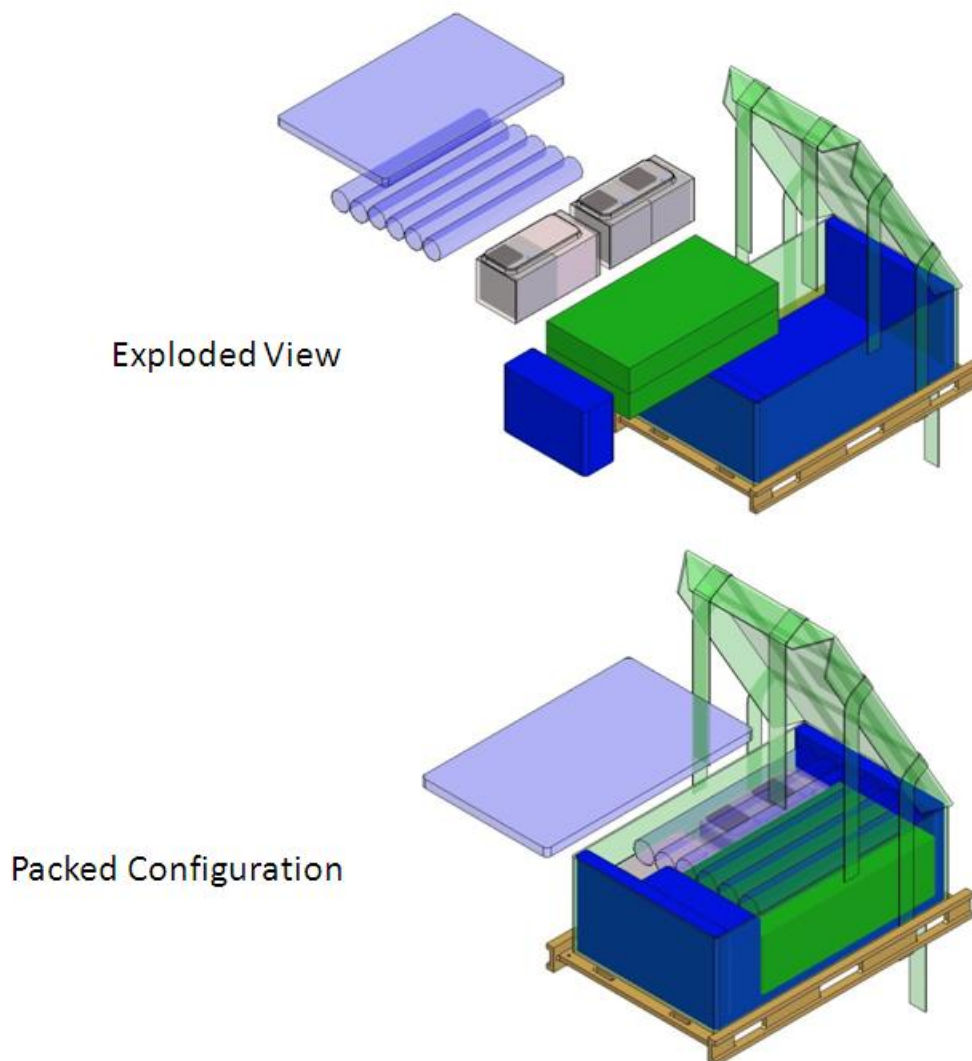

Figure 1. MERLIN Descent Packing Configuration
5.2 Remove samples from Double Coldbag and pack in MERLIN Pouch Assembly. Refer to Figure 1.
5.3 The foam closeout shown in Figure 1 may be used at crew discretion. Discard on-orbit if not used.